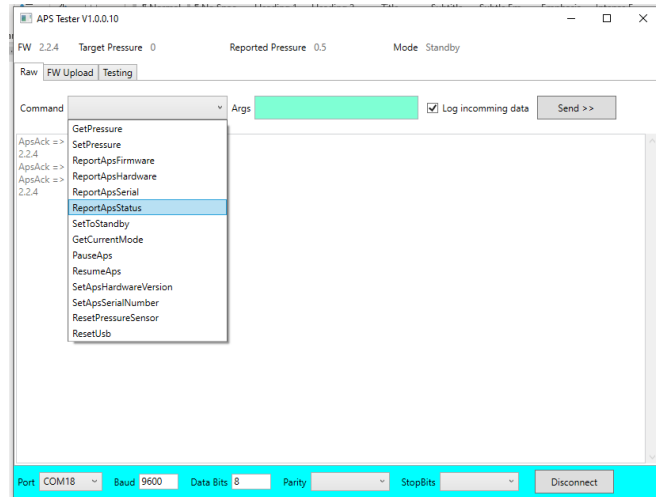

Figure 6: 'ReportApsStatus' function from the 'Command' drop-down list.
10. In the 'Raw' tab, select 'ReportApsStatus' from the 'Command' drop-down list, as shown in figure 6 and press 'Send'.